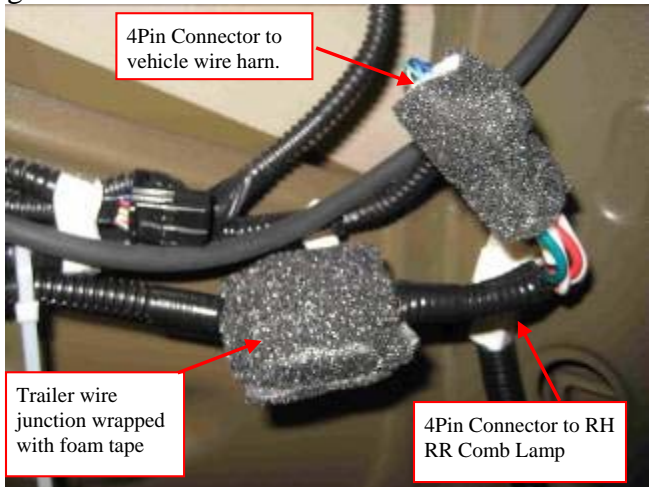

Figure 3-7
- h) Wrap foam pads around the loose 4Pin connection and plastic junction block of the trailer wire harness (Figure 3-7).